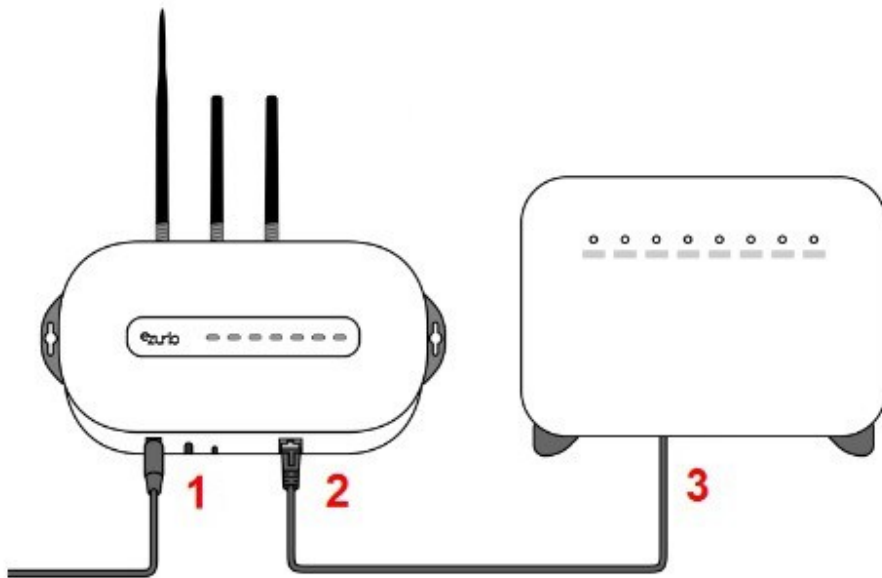

Figure 6: Gateway physical connectivity
As shown in Figure 6, the external DC power supply must be connected (1) and mains power provided. For Ethernet connectivity, the supplied Ethernet cable is connected (2) and to the end user router (3).